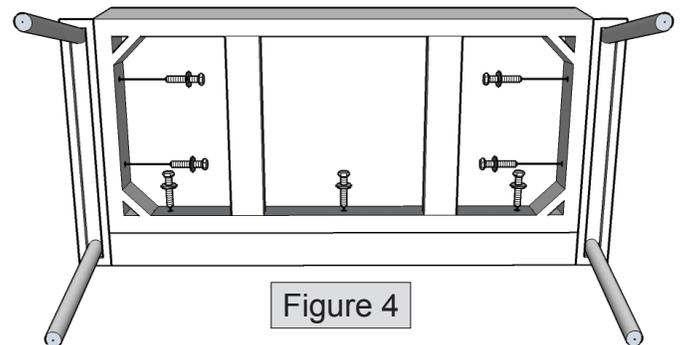

Figure 4
7. Attach seat cushion to back cushion and arm frames using 3" hex bolts and washers, as shown in figure 4. Keep all bolts slightly loose for now.